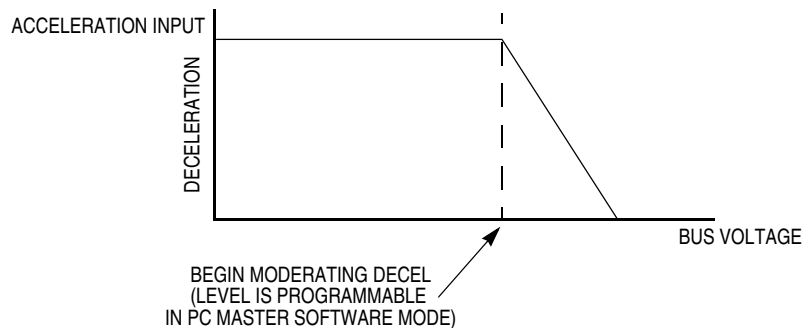

Figure 7. Deceleration as a Function of Bus Voltage
- Automatic Deceleration Control** — When decelerating the motor, the MC3PHAC attempts to use the specified acceleration value for deceleration as well. If the voltage on the DC_BUS pin reaches a certain threshold, the MC3PHAC begins to moderate the deceleration as a function of this voltage, as shown in Figure 7. The voltage range on the DC_BUS pin from when the deceleration begins to decrease, to when it reaches 0, is 0.62 volts. In standalone mode, the DC_BUS voltage where deceleration begins to decrease is fixed at 3.85 volts (110 percent of nominal) where nominal is defined to be 3.5 volts. In PC master software mode, this threshold can be set to any value between 0 volts (0 percent of nominal) and greater than 5 volts (143 percent of nominal) and can be changed at any time.